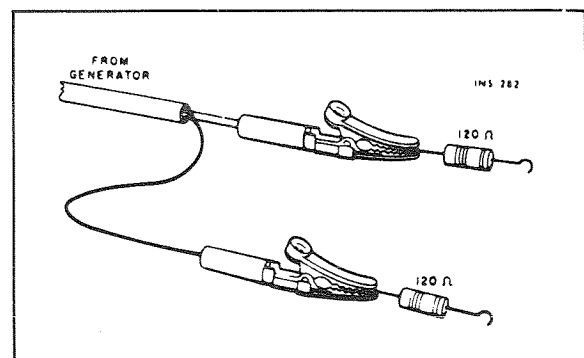
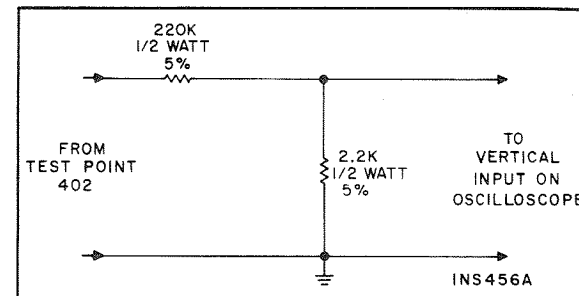

Figure 7. Connections To Provide 300-ohm Generator Output Impedance. Matching Resistors Reduce Generator Voltage By Half At Antenna Terminals.
Figure 8. Voltage Divider Probe.
(2) Connect an FM generator to the FM ANTenna terminals. Use a 120-ohm composition resistor in series with each lead from the generator (see Figure 7).
(3) Connect a scope and an AC VTVM to either Left or Right RCDR OUT jack.
(4) Set FM generator frequency and TUNING dial pointer to 90 MHz. Modulate generator with 400 Hz, ± 75 kHz deviation. Set generator level as low as possible.
(1) Connect an FM generator to the FM ANTenna terminals. Use a 120-ohm composition resistor in series with each lead from the generator (see Figure 7).
(2) Set generator frequency to same frequency as receiver. Set generator RF output level to full output (approximately 100,000 uV) with audio modulation off.
(3) Adjust generator frequency for peak tuning meter reading.
(4) Adjust FM METER ADJ. pot. R328 (on AM/FM IF, MPX board) for tuning meter reading of 4.5.
(1) Connect RF output of multiplex generator to the FM ANTenna terminals. Use a 120-ohm composition resistor in series with each lead from RF output (see Figure 7). Set MPX generator for external modulation with 19 kHz pilot carrier, ± 7.5 kHz deviation (10% pilot, no audio). Tune receiver to RF frequency of MPX generator.
(2) Connect DC VTVM to Test Point 403 (pin 4G on AM/FM IF, MPX board).
(3) Adjust cores of Z401 and Z402 (on AM/FM IF, MPX board) for maximum reading on DC VTVM (2.5 to 4 VDC).
(4) Connect output of audio generator, set for 1 kHz, to the external modulation input of MPX generator and to external sync input of an oscilloscope. Adjust audio generator level for composite signal ± 75 kHz deviation (10% pilot, 90% audio). Modulate right channel only.
(5) Connect AC VTVM to Left RCDR OUT jack. Connect scope through voltage divider probe (see Figure 8) to Test Point 402 (pin 4K on AM/FM IF, MPX board).